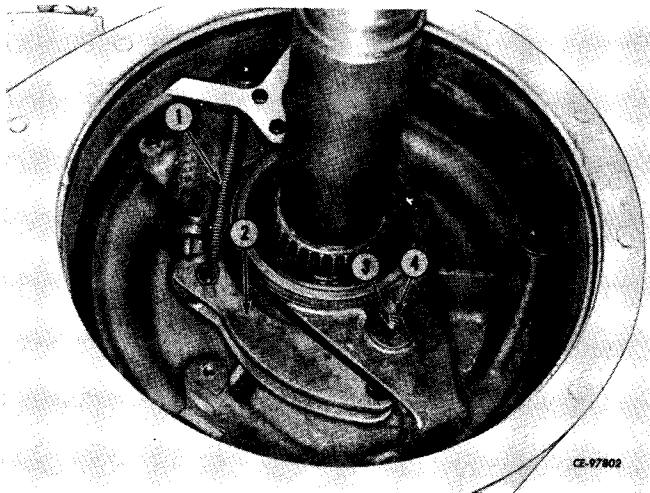

Figure 14-11
Disconnect clutch lever return spring (1, Fig. 14-11) from lever (2). Remove snap ring (4) and lever pin (3). Remove clutch lever (2).